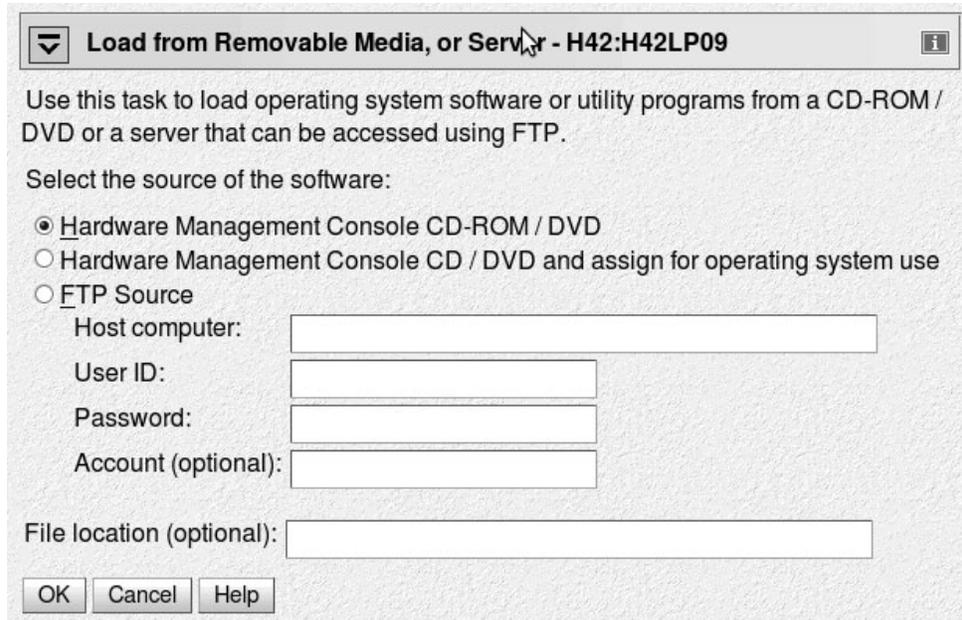

Figure 66. Load from Removable Media or Server panel
- a. Select **Hardware Management Console CD-ROM/DVD** (see Figure 66 on page 346).